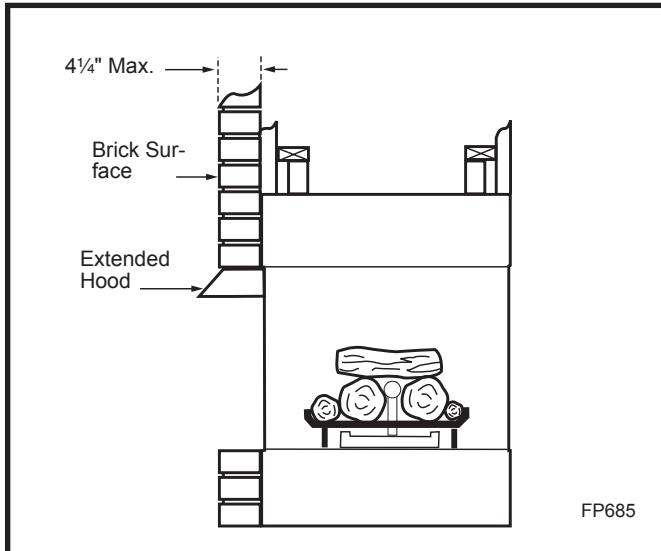

Fig. 13 Side view of firebox with extended hood.
**WARNING: When the black surround is covered by a brick surface, (Fig. 13), use an extended hood. The hood should extend out to the brick surface (Refer to Figs. 13 and 14) and be attached to the firebox. The maximum brick to noncombustible surface that may extend out past the black surround surface is 4 $\frac{1}{4}$ ".**